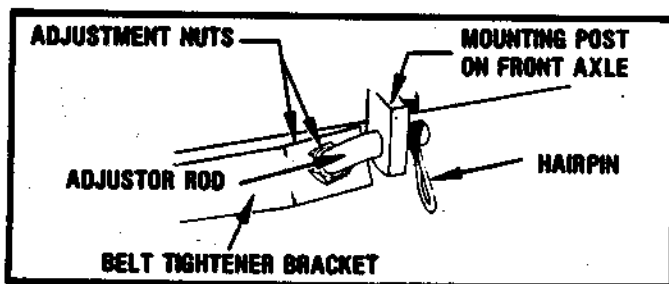
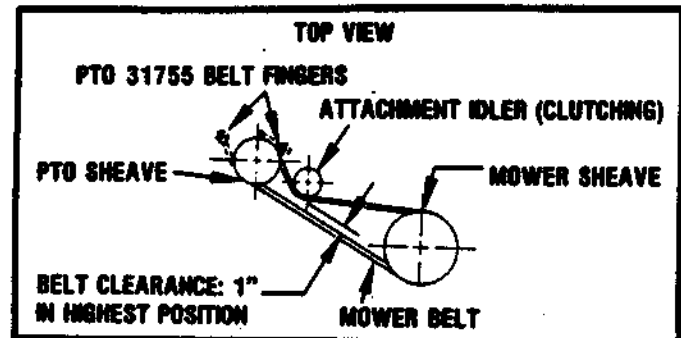

FIGURE 14
FIGURE 19
- Adjust Mower Belt for proper center distance. See Figure 14 and 19. Adjust nuts on the adjustor rod to move mower pan forward or rearward. Adjust for 1 to 1½ inch clearance between belt as shown in Figure 19 with mower pan in highest position.
4. Raise the mower pan to its mid position and remove the mower belt from the PTO sheave; lower the pan and remove the belt from mower pan. See Figure 19.
2. Raise the mower pan to its center position and install the mower belt around the PTO sheave. See Figure 19.
Adjust mower belt for proper center distance, see Figure 14 and 18. Adjust nuts on adjustor rod to move mower pan forward or rearward. Adjust for 1 inch clearance between belt as shown in Figure 19 with mower pan in highest position.